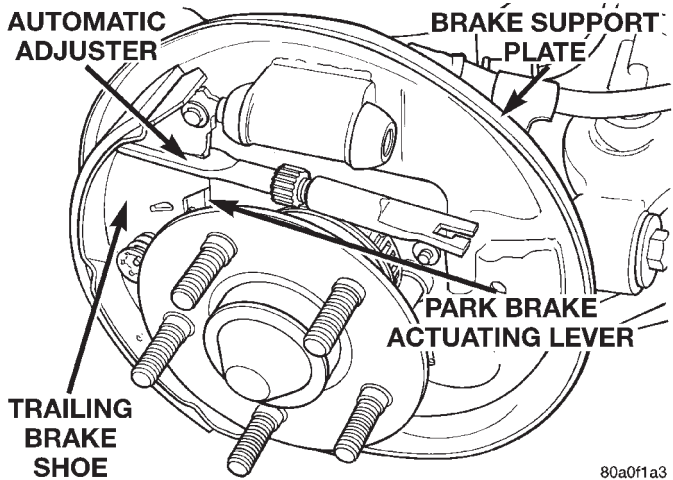

Fig. 64 Automatic Adjuster
(8) Remove the leading brake shoe from the brake support plate.
(9) Remove the automatic adjuster (Fig. 64) from the trailing brake shoe and park brake actuating lever.
(6) Install the automatic adjuster on the trailing brake shoe and park brake actuating lever (Fig. 64).